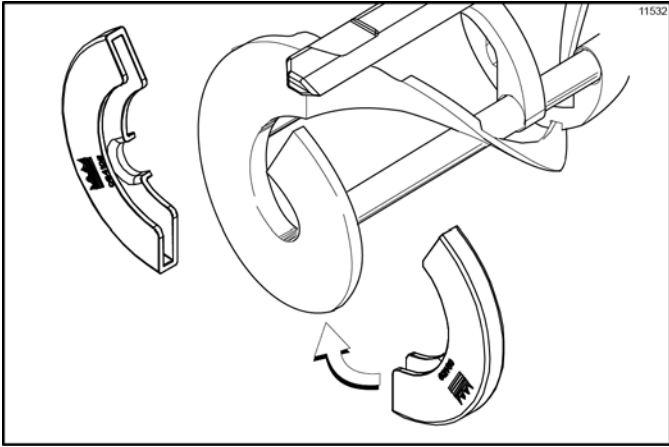

Figure 6-24
7. Install the beater shoes. (See Figure 6-24.)